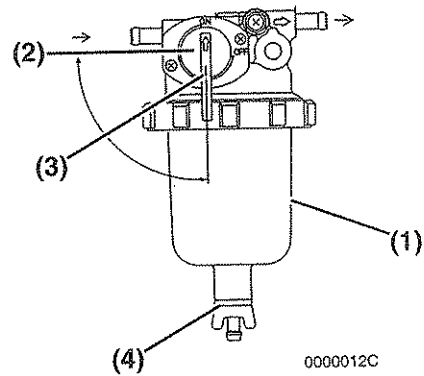

Figure 8
1. Position an approved container under the fuel filter/water separator (**Figure 8, (1)**) to collect the contaminants.
2. Close (**Figure 8, (2)**) the fuel cock (**Figure 8, (3)**).
3. Loosen the drain cock (**Figure 8, (4)**) at the bottom of the fuel filter/water separator. Drain any water collected inside.
5. Open the fuel cock (**Figure 8, (3)**).